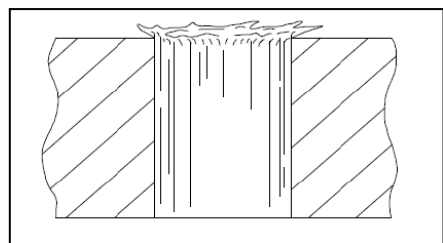

Figure 4 Sliver Burr
b. Sliver Burr (see Figure 4):